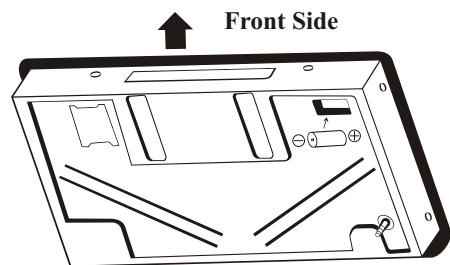

Fig. 6
- \* Battery box is located at bottom of right front (Size C, 1.5V x 1) (Fig. 6)